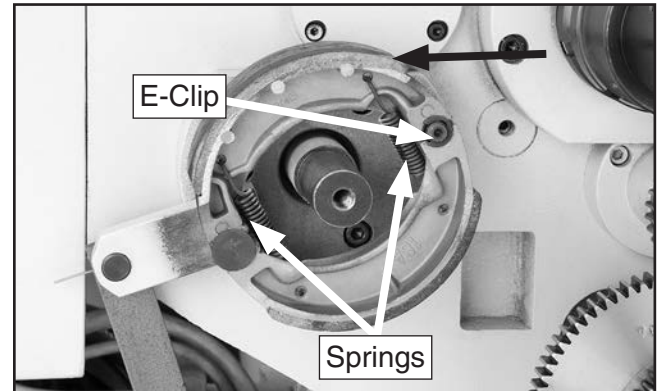

Figure 115. Brake assembly.
5. Step off the brake pedal and remove the pulley. **Figure 115** shows the pulley removed and the brake shoes exposed.
7. Put on safety glasses and remove the E-clip, springs, and brake shoes shown in **Figure 115**.